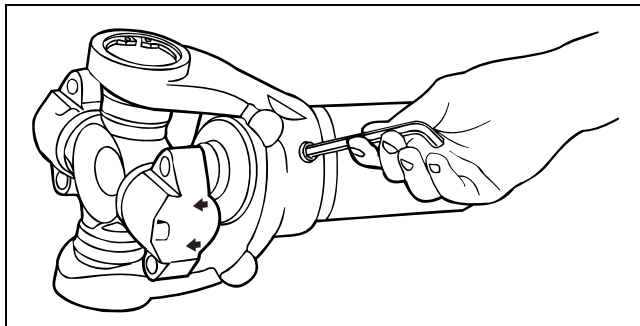

Figure 4.17
1. Use an Allen wrench to remove the grease plug from the slip yoke before you assemble the slip yoke and spline shaft sections. Figure 4.17.